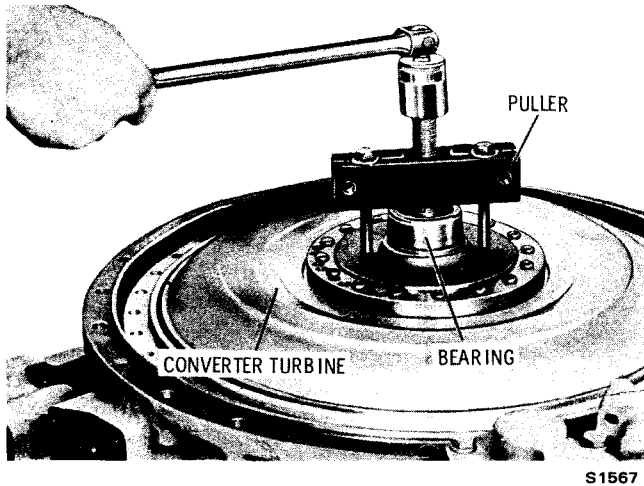

Fig. 5-22. Removing torque converter turbine
(2) Using the turbine puller, remove the inner race of the front cover bearing, and the converter turbine (fig. 5-22).